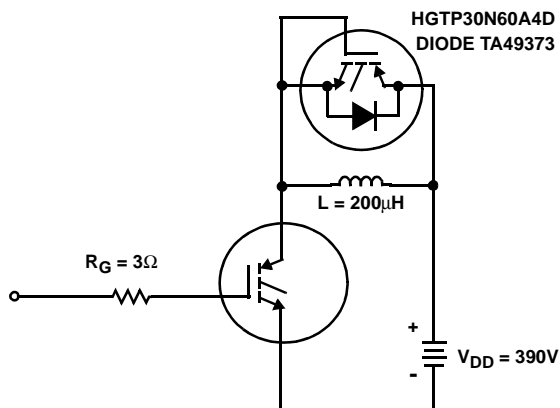

FIGURE 20. INDUCTIVE SWITCHING TEST CIRCUIT
| Current Turn-On Delay Time | $t_{d(ON)I}$ | IGBT and Diode at $T_J = 25^\circ\text{C}$ $I_{CE} = 30\text{A}$ $V_{CE} = 390\text{V}$ $V_{GE} = 15\text{V}$ $R_G = 3\Omega$ $L = 200\mu\text{H}$ Test Circuit - (Figure 20) | - | 25 | - | ns |
| Current Turn-On Delay Time | $t_{d(ON)I}$ | IGBT and Diode at $T_J = 125^{\circ}\text{C}$ $I_{CE} = 30\text{A}$ $V_{CE} = 390\text{V}$ $V_{GE} = 15\text{V}$ $R_G = 3\Omega$ $L = 200\mu\text{H}$ Test Circuit - (Figure 20) | - | 24 | - | ns |
- Values for two Turn-On loss conditions are shown for the convenience of the circuit designer. E_{ON1} is the turn-on loss of the IGBT only. E_{ON2} is the turn-on loss when a typical diode is used in the test circuit and the diode is at the same T_J as the IGBT. The diode type is specified in Figure 20.